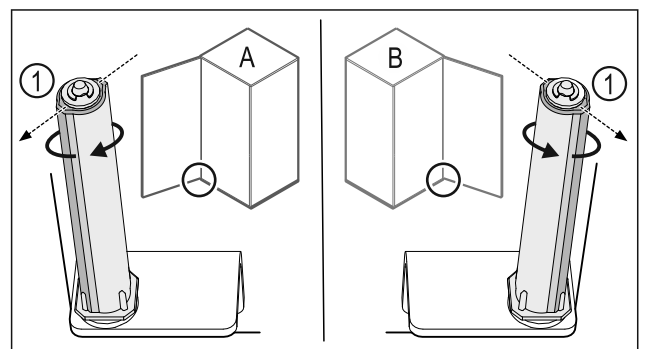

Fig. 55 Left-hinged (A) / Right-hinged (B)
- ▶ Turn the closing system against the resistance until the bar of the closing system Fig. 55 (1) points outwards.